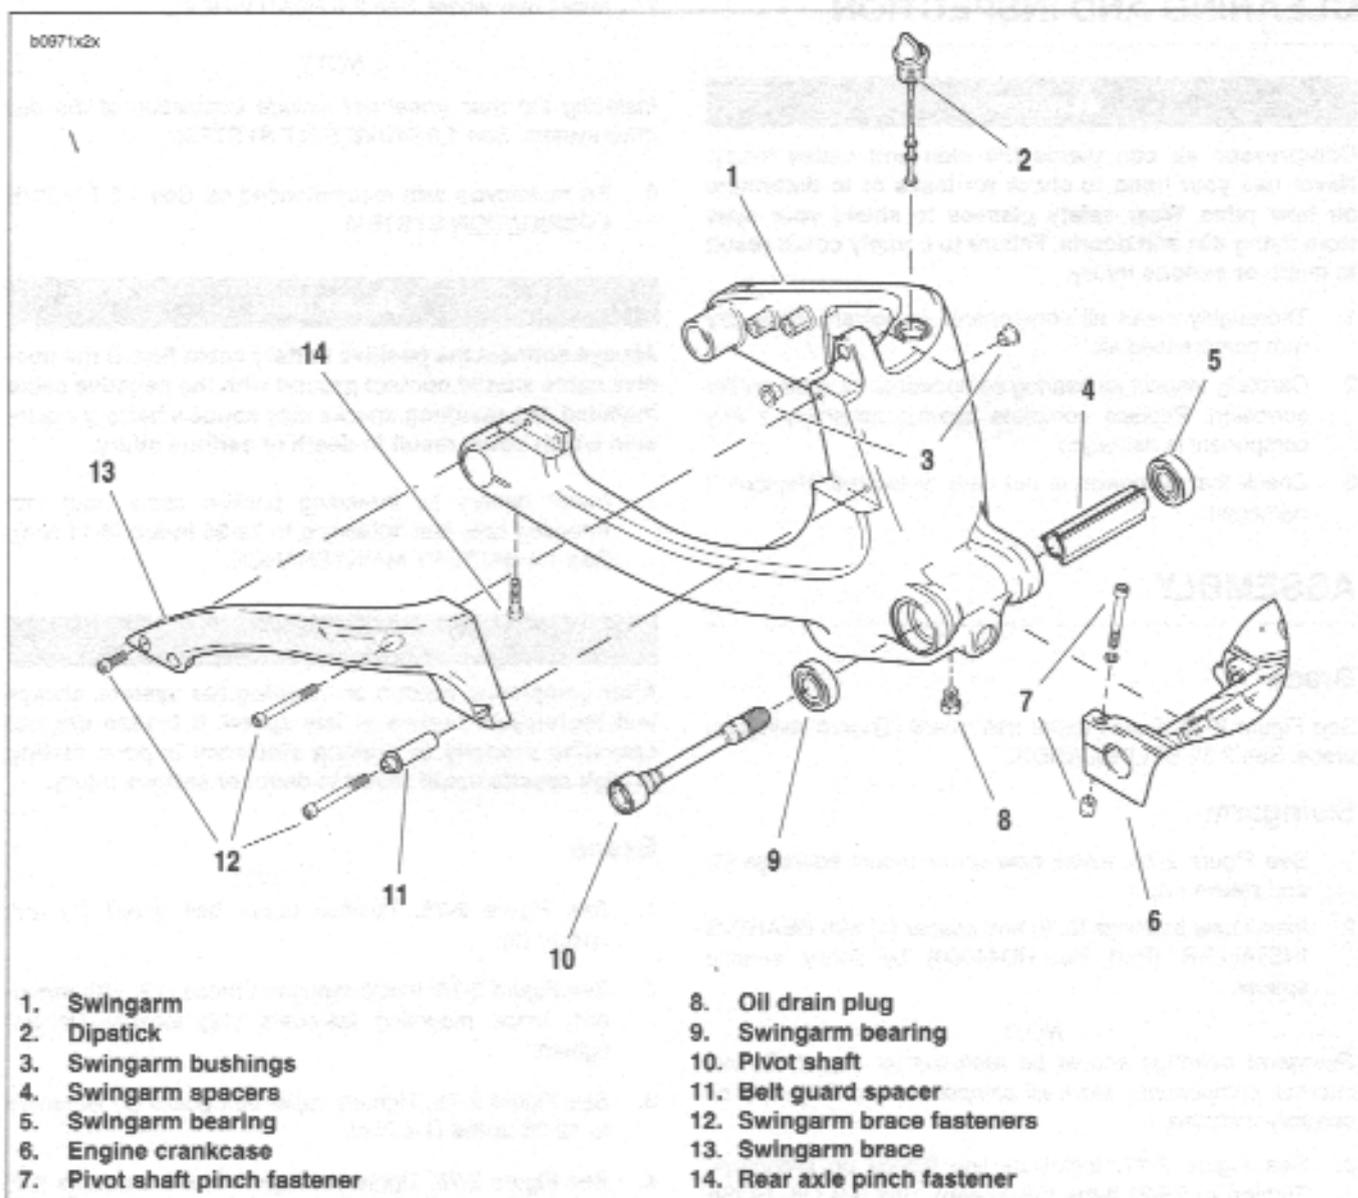

Figure 2-78. Swingarm Assembly
6. See Figure 2-78. Remove swingarm brace mounting fasteners (12) and swingarm brace (13).
2. See Figure 2-78. Remove oil drain plug (9) and drain oil from swingarm. See Draining Oil in 1.5 ENGINE LUBRICATION SYSTEM.
7. See Figure 2-78. Loosen pivot shaft pinch fastener (7).
8. Remove pivot shaft (10) with a special 7/8 in. hex tool located in tool kit.
2. See Figure 2-78. Remove swingarm bearings (5, 9) using slide hammer (SNAP-ON Part No. CJ1275 or equivalent) and 3/4 in. bearing remover and spacer.
3. Remove shock mount bushings (3) and sleeve.
See Figure 2-78. Remove swingarm bearings (5, 9) only if replacement is required. The complete bearing assembly must be replaced as a unit when replacement is necessary. Do not intermix bearing components.
1. See Figure 2-78. Install **new** shock mount bushings (3) and sleeve (4).
2. Install **new** bearings (5, 9) and spacer (4) with BEARING INSTALLER (Part No. HD44060) by lightly seating spacer.
4. See Figure 2-78. Install drain plug (9). Tighten to 29-31 ft-lbs (39-42 Nm).
1. See Figure 2-78. Align swingarm (1) in pivot of engine crankcase (6).
2. Install pivot shaft (10) with a special 7/8 in. hex tool located in tool kit, ANTI-SIEZE and tighten to 24-26 ft-lbs (32-35 Nm).
3. Tighten pivot shaft pinch fastener (7) to 17-19 ft-lbs (23-26 Nm).
2. See Figure 2-78. Install swingarm brace (13) with swingarm brace mounting fasteners (12) loosely. Do not tighten.
4. See Figure 2-78. Tighten swingarm brace fasteners (12) to 25-27 ft-lbs (34-37 Nm).